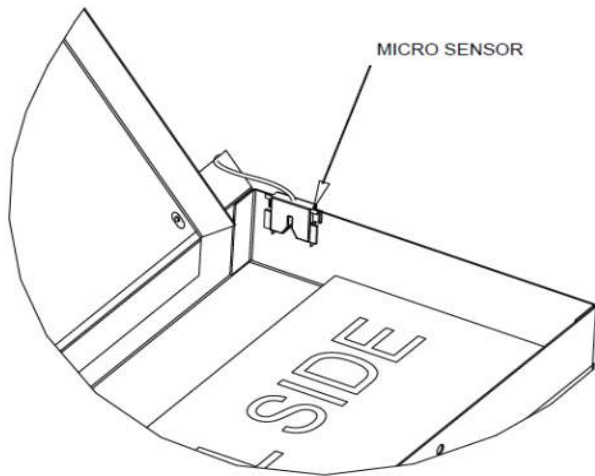

FIGURE 22
6. Fix the micro sensor on the mounting bracket by sliding the micro sensor onto the drain pan as shown in Figure 22. Adjust depth of the sensor as needed.